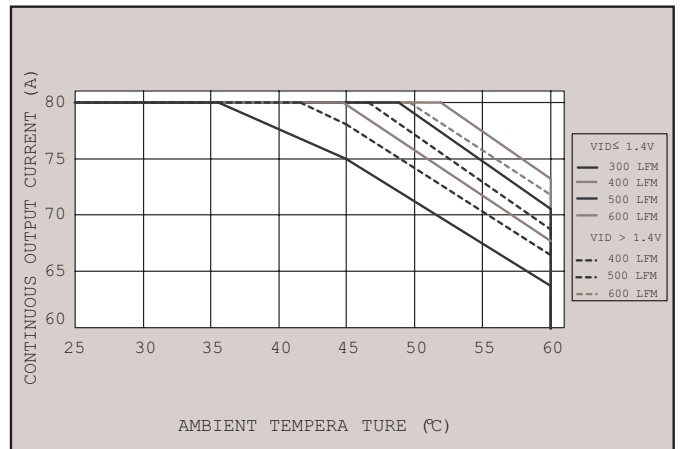

Figure 2: Thermal Derating Curve for VRM10-80-12-PY
- 7 Maximum current requires adequate forced air over the converter. Please consult Figures 2 and 3 for thermal de-rating.